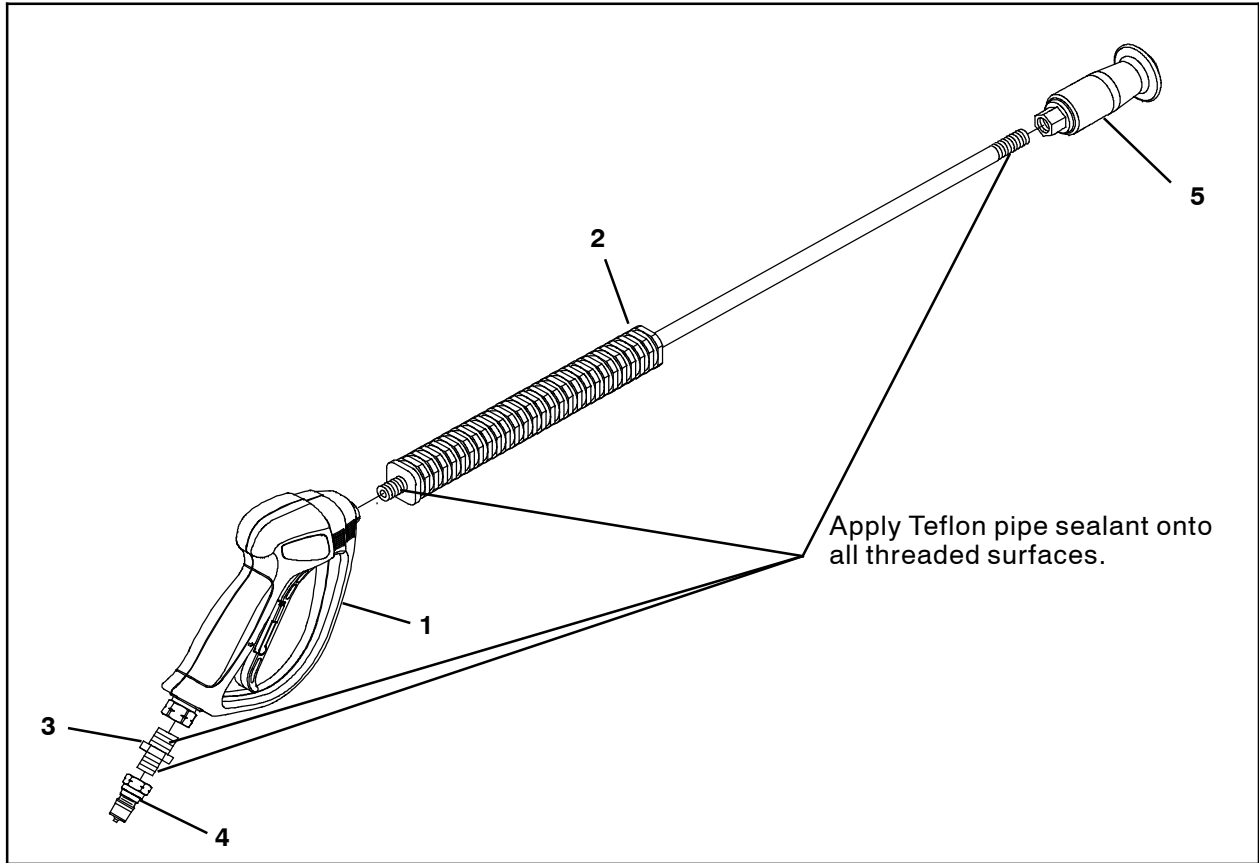

FIG. 1
1. Apply Teflon™ pipe sealant onto all threaded surfaces of the wand (2) and the brass straight fitting (3). (Fig. 1)
2. Assemble the pressure washer wand assembly. (Fig. 1)
*NOTE: To ensure a tight fit for all pressure washer wand assembly threaded parts, use a vise to hold the wand (2) when assembling threaded parts onto the wand.*